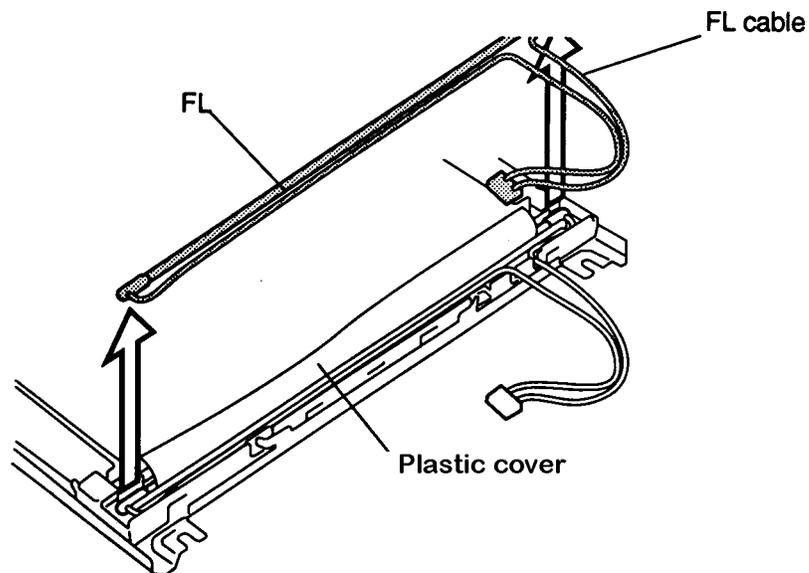

Figure 4-34 Removing the FL
6. Hold up the **plastic cover** shielding the **fluorescent lamp (FL)** and lift the FL cable to remove the FL (Figure 4-34).
1. Place the **FL** with the **FL cable** in the LCD module (Figure 4-34).